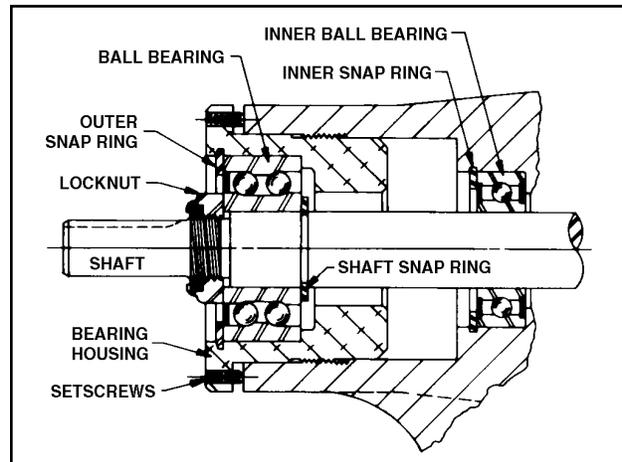

Figure 31. Thrust-Bearing assembly (GG, HJ, HL)
4. Place tapered installation sleeve on shaft. Refer to Figure 31. Sleeve is furnished with **GG, AS, AK, and AL** replacement mechanical seals. Coat rotor shaft, tapered installation sleeve, and inner diameter of mechanical seal rotary member with a generous amount of refrigeration oil. Petrolatum may be used but grease is not recommended.